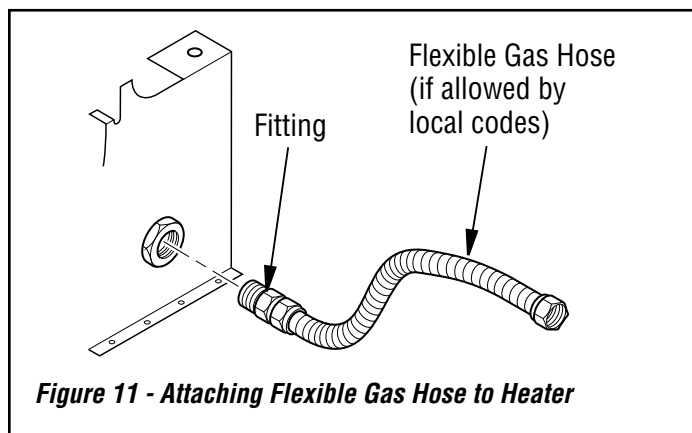

Figure 11 - Attaching Flexible Gas Hose to Heater
1. Apply pipe joint sealant lightly to male threads of the fitting to be threaded into gas control. Connect approved flexible gas hose to gas control fitting in heater (see **Figure 11**).